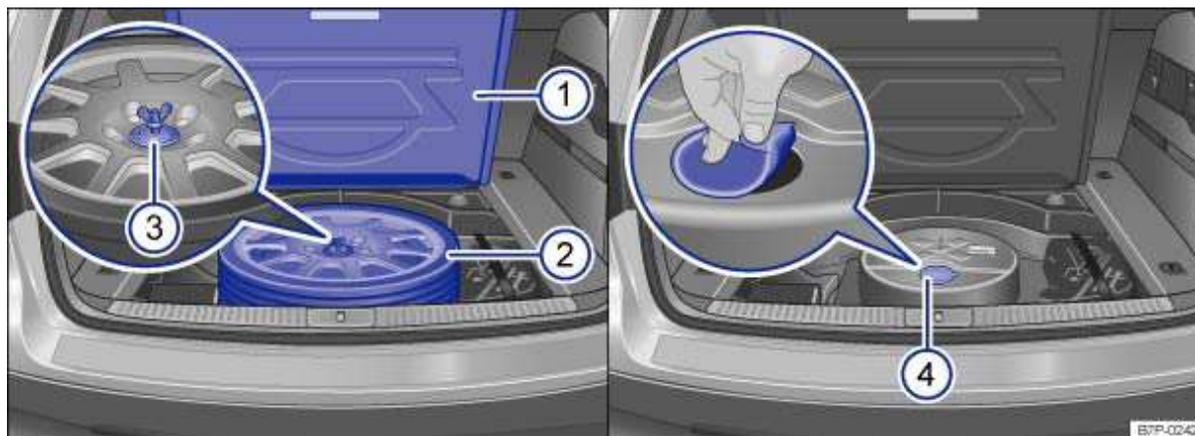
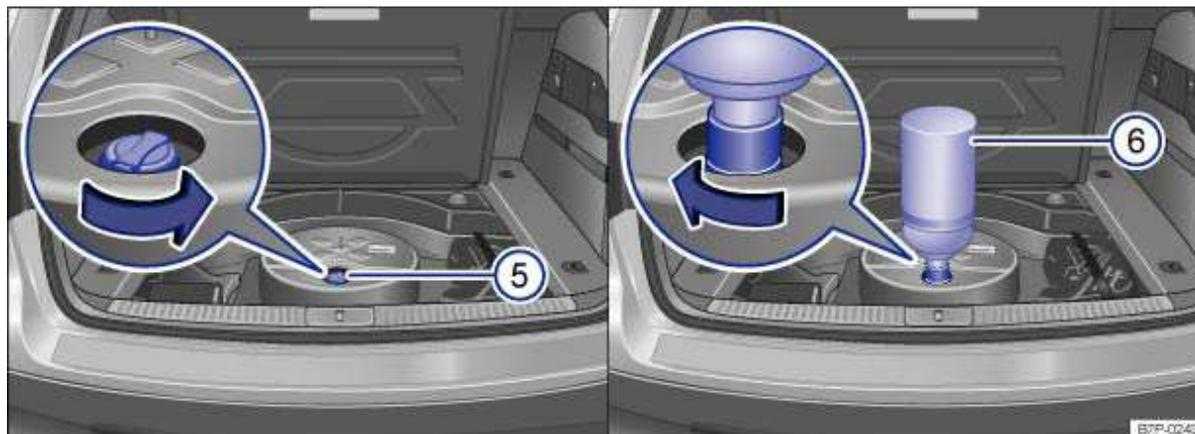

Fig. 279 Luggage compartment with collapsible spare tire and AdBlue tank.
Fig. 280 AdBlue tank with filler neck cap and refill container.
Key to ⇒ fig. 279 and fig. 280:
- Fold up the luggage compartment floor panel ⇒ fig. 279 \(1\) and hook it open or, if you have a reversible luggage compartment floor panel, take this out .
- Take out the collapsible spare tire (2)- Unscrew the fastening screw (3) with washer counterclockwise and take out the collapsible spare tire.
- Pull off the plug (4) in the spare tire well.
- Unscrew the tank filler neck cap ⇒ fig. 280 \(5\) counterclockwise and remove.
- Screw in the fuel filler neck cap (5) clockwise until the cap locks into place.
- Put the plug ⇒ fig. 279 \(4\) back in the spare wheel recess and make certain it is properly placed and secure.
- Put the collapsible spare tire (2) back in the spare wheel recess and secure it with the fastening screw (3) and washer.
- Unhook the luggage compartment floor panel (1) and fold down or, if you have a reversible luggage compartment floor panel, put this back in